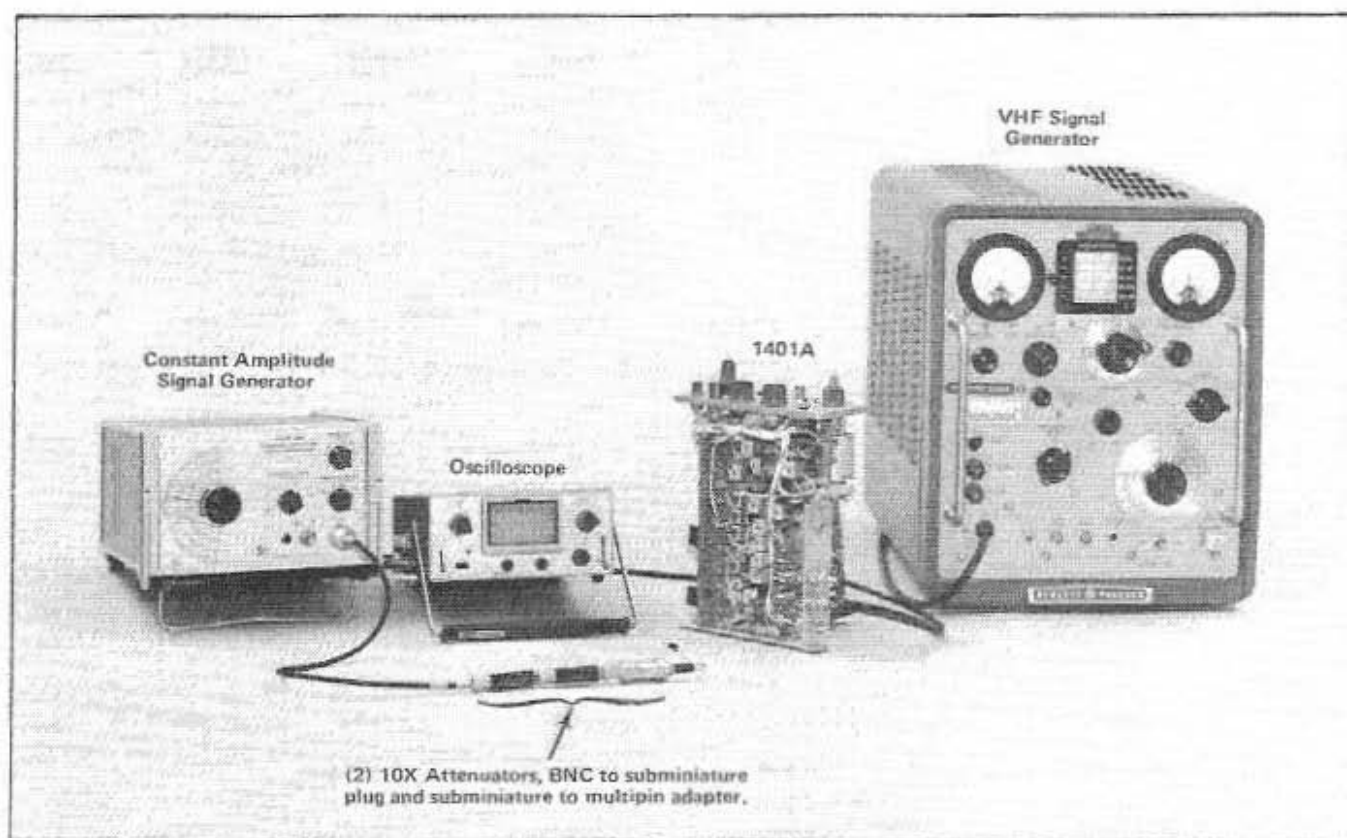

Fig. 6-3. Equipment setup for RF and IF alignment.
a. Test equipment setup is shown in Fig. 6-3.